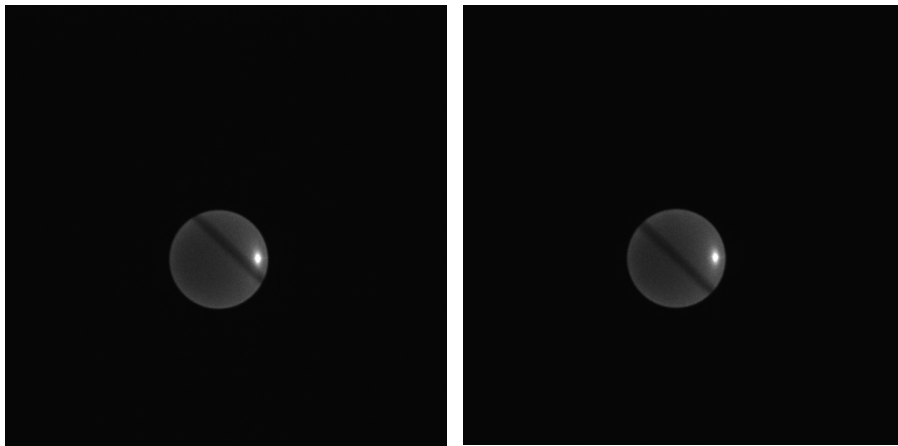

Fig. 464 Adjusting the 3D-PALM slider in Epi using imaging of the back focal plane with non-optimal (left panel) and correct (right panel) positions.
- **EPI** illumination using 100 nm beads sample and using Bertrand lens to look into the back aperture of the objective. Use Tube lens 1x . Move the slider until it divides the pupil circle into two equal halves (Fig. 464).